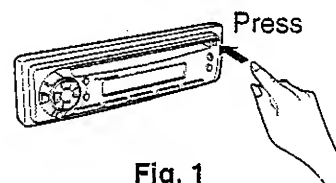

Fig. 1
- ① Switch off the power.
- ② Press the release button [▲]. The removable face plate will be released. (⇒ Fig. 1)